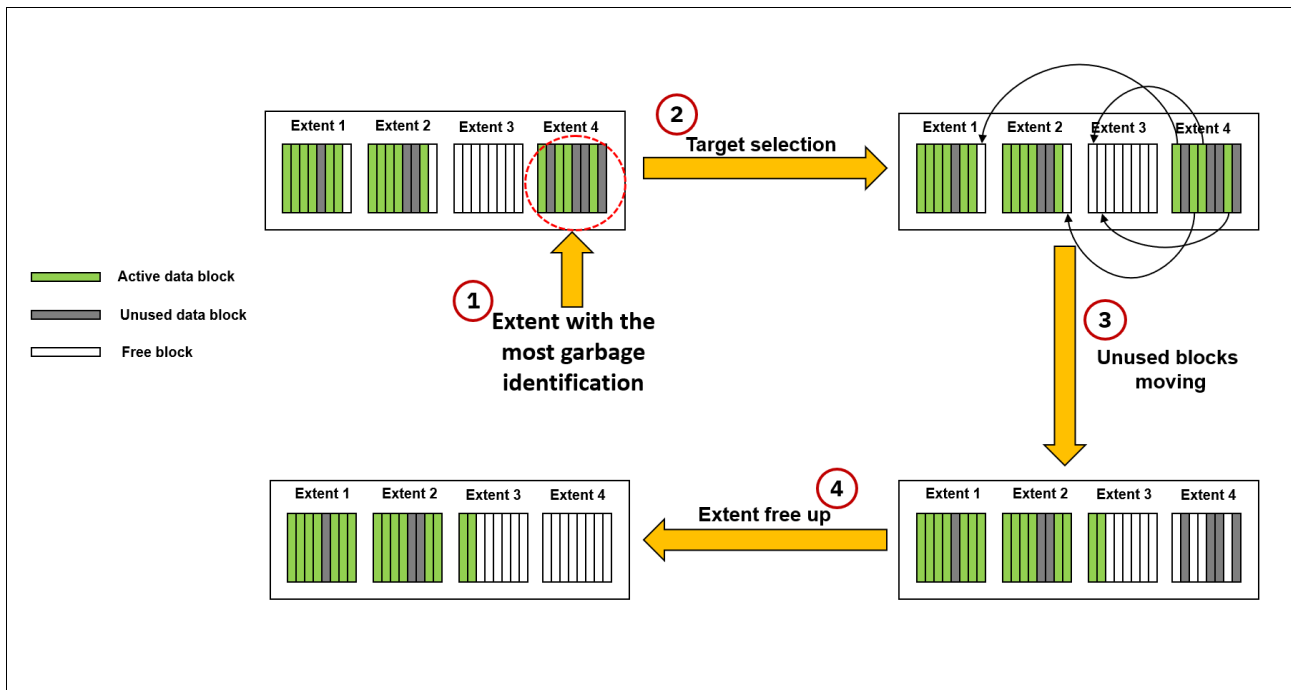

Figure 3-18 Garbage Collection main steps
When sizing a DRP, it is important to remember that the Garbage Collection (GC) process is running all the time to reclaim the unused space, optimizing the extents usage. The GC process main steps are summarized in Figure 3-18.